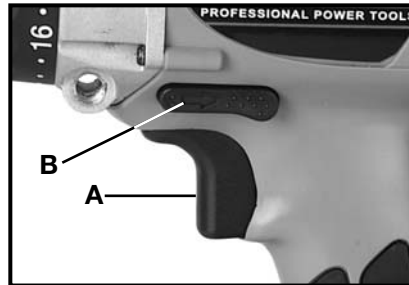

Fig. 1
Squeeze trigger switch (A) Fig. 1 to start motor. Release trigger to stop motor. As the trigger is squeezed, the motor speed increases.
- Make sure that the trigger switch (A) Fig. 1 is in the "OFF" position before attempting to change the direction of rotation.
- Push button (B) Fig. 1 toward the left side of the drill for FORWARD (clockwise) rotation.
- Push button (B) Fig. 1 toward the right side of the drill for REVERSE (counter-clockwise) rotation.
- Place button (B) Fig. 1 in the center position to lock trigger switch in the "OFF" position.